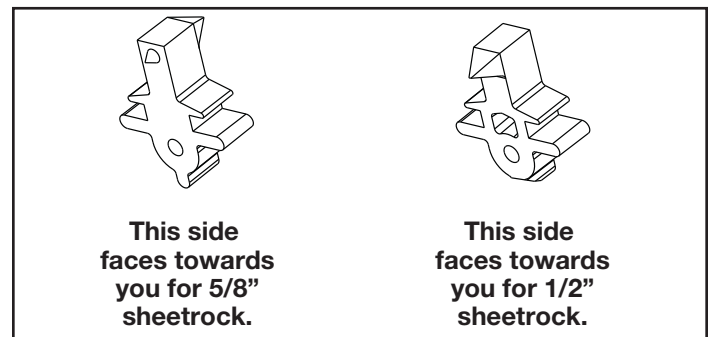

Figure 27. Cleat Orientation
5. Depending on what size sheet rock (5/8" or 1/2"), determine which side of the cleat is to be facing you (see Figure 27).